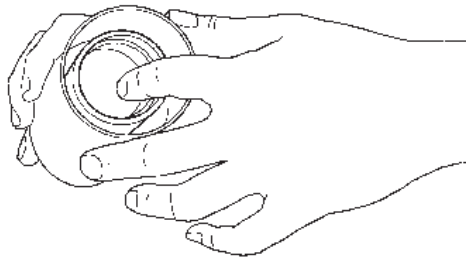

Figure 2.22
5. Use the two z -adjustment screws (see Figure 2.22) to correct the angle, or lean, of the furnace core. Refer to Tables 2.3 and 2.4 to determine which screw to adjust and the direction it should be turned.
2. If you plan to do *programmed* cooling experiments with the DSC Cooling Can, first punch a 2-cm hole in the center of the insulation disc. This allows you to remove the disc from the can later by prying up the edge of the hole with a tool. Place the insulation disc inside the can by turning the cooling can upside down, putting the disc into the can, and pushing the disc until it snaps into place (see Figure 2.22).